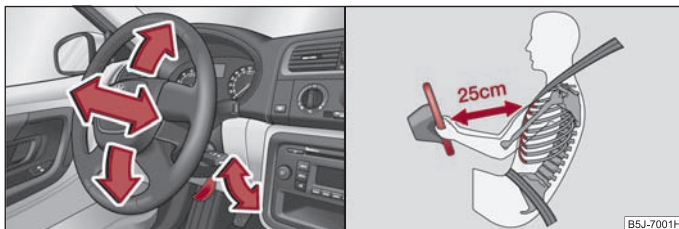

Fig. 93 Adjustable steering wheel: Lever below the steering column / Safe distance to steering wheel
- Pull the lever below the steering wheel down ⇒ fig. 93 - left ⇒ ⚠.
- **The driver must maintain a distance of at least 25 cm to the steering wheel ⇒ fig. 93 - right. Not maintaining this minimum distance will mean that the airbag system will not be able to properly protect you - hazard!**